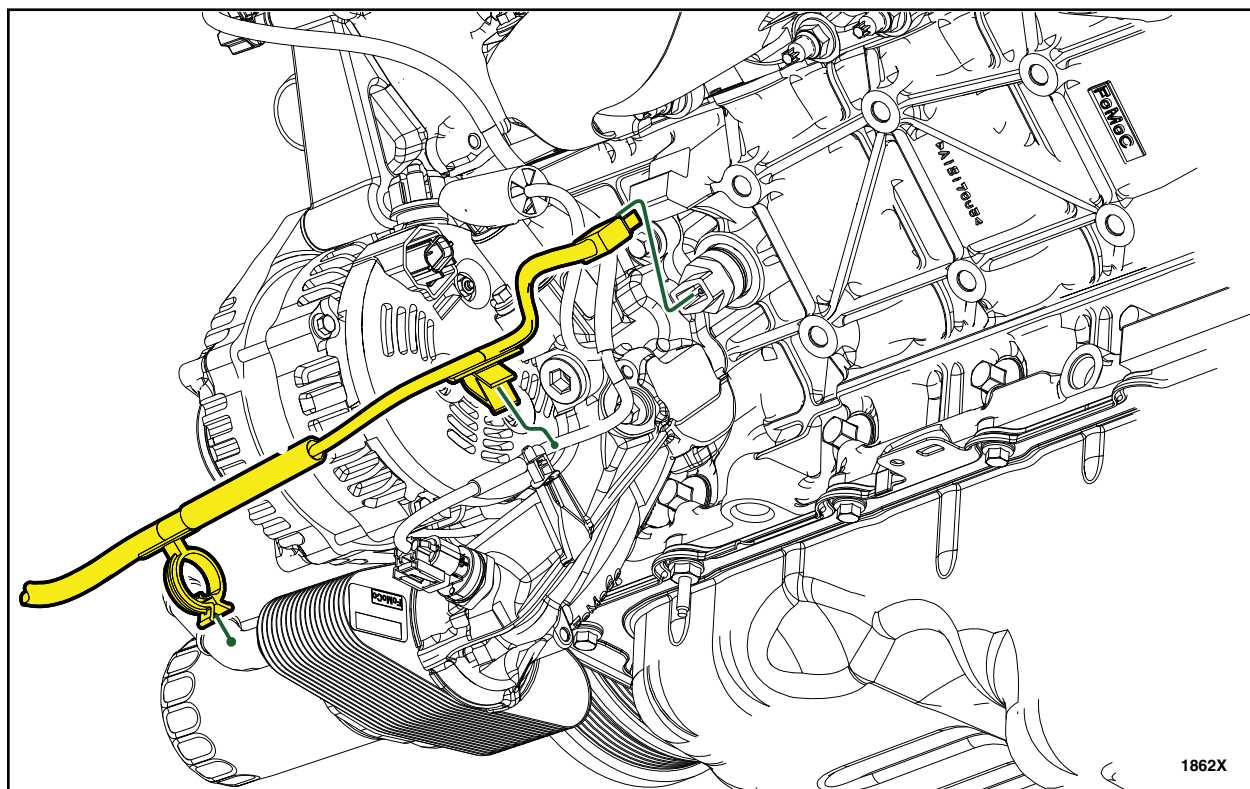

FIGURE 14a
3. Remove and discard the wire assembly. See Figures 14a, 14b and 14c.
6. Install the *new* wire assembly in the vehicle following the same routing as the wire assembly that is being replaced. See Figures 14a, 14b and 14c.